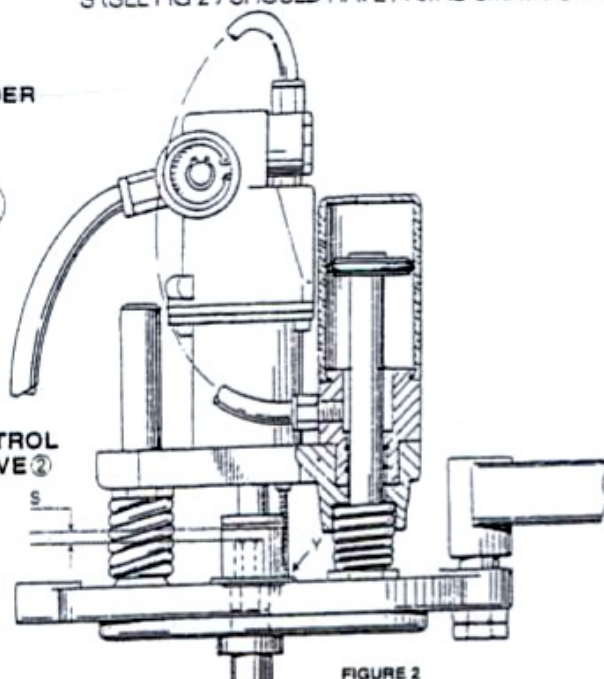

FIGURE 2
2. ADJUST THE SCREW "Y" TO CONTACT THE STOP PATE (FUNCTION AS TO STOP), DO NOT LET THE DRAWBAR HEX ENGAGE ALL THE WAY TO THE TOP OF SOCKET, TH "S" (SEE FIG 2) SHOULD HAVE A 0.1" (2-3mm/m) SPACER.